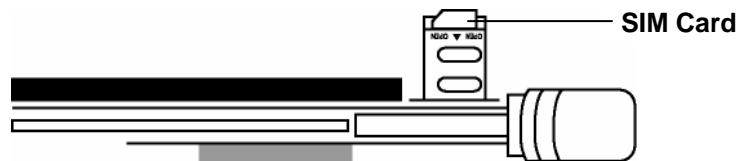

Figure 5. Inserting SIM Card
6. Pivot the SIM cardholder outward and insert the SIM card as shown in Figure 5. Notice the position of the notched corner.